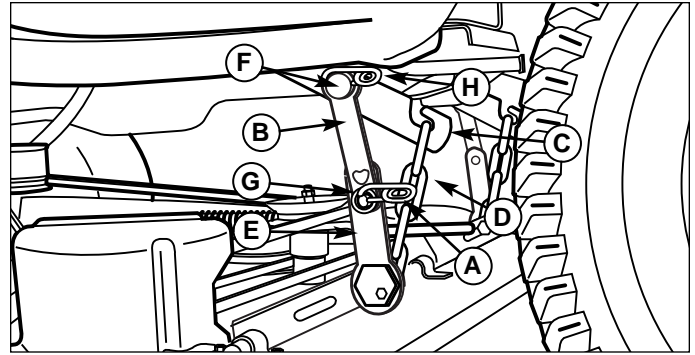
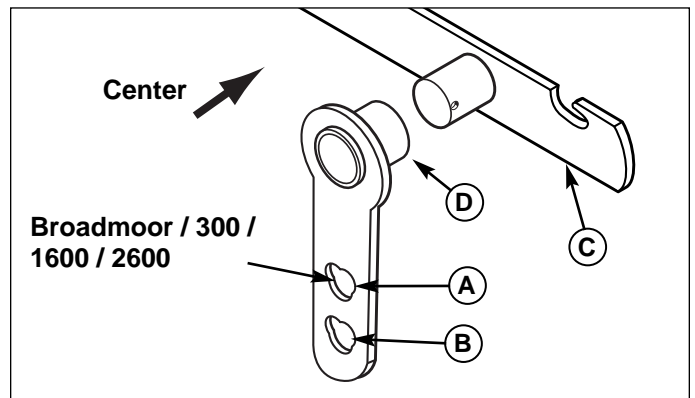

Figure 13. Lift Arms
Figure 14. Upper Hanger
4. Disconnect the safety clips (A & H, Figure 13) and washer (G) from the lower hanger (E). Remove upper hanger (B) from lift post (F). Connect upper hanger (B) to lower hanger (E) using safety clip (A) to prevent misplacing or losing parts. Repeat on other side.
6. Remove lift chain (D) from lift hook (C). Repeat on other side.
4. See Figure 13. Connect the lift chain (D) to the lift hook (C). Repeat on other side.
6. Disconnect the safety clip (A & H, Figure 13) from the upper hanger (B) and lower hanger (E) if still connected from storage. Slide upper hanger (B) over post on lift hook (F). The long hub (D, Figure 14) on the upper hanger must face toward center. Connect hole on upper hanger (B, Figure 13) to post on lower hanger (D). Secure with washer (G) and safety clip (A & H). Repeat on other side.
Note: Use upper hole for Broadmoor / 300 / 1600 / 2600 as shown in figure 14.